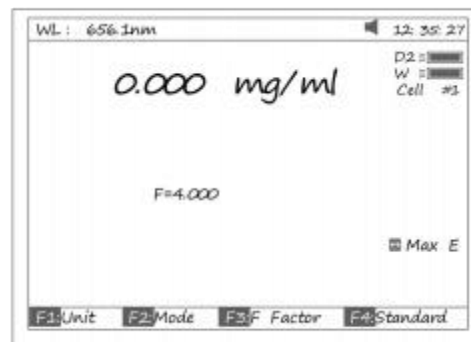

Fig 24
- 4.2 Push sample of known concentration into the Main Light Path Press **【F4】** to input known Conc value, Fig 24. Then push the sample into Main Light Path to take reading of concentration.